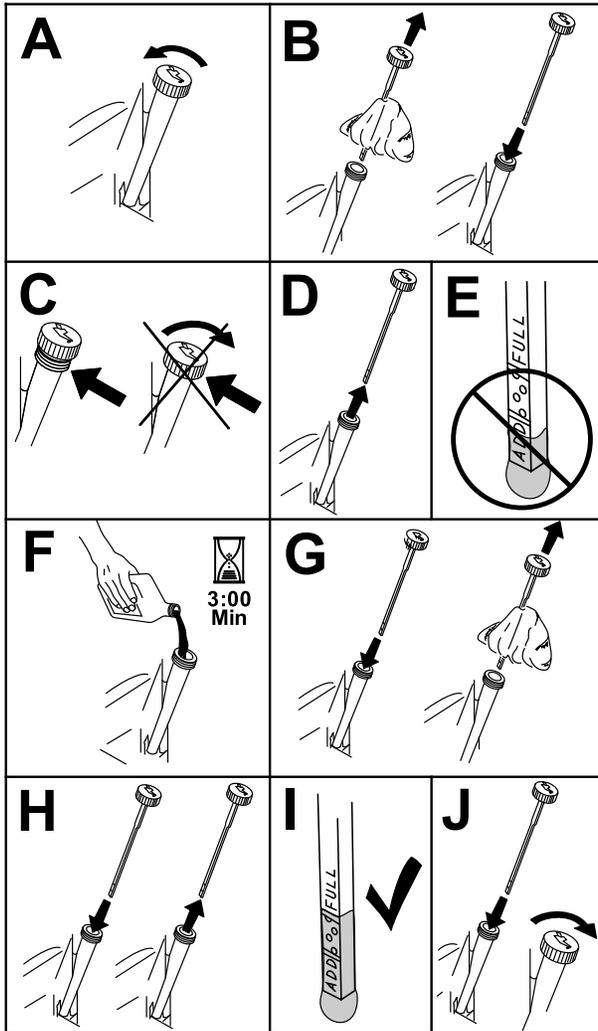

Figure 34
- To keep dirt, grass clippings, etc., out of the engine, clean the area around the oil-fill cap and dipstick before removing it (Figure 34).